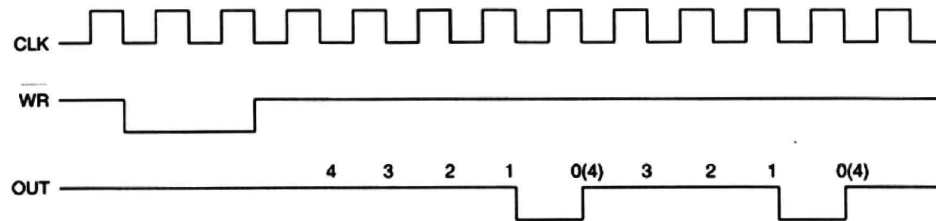

Fig. 4.15 Mode 2
- The signal waveforms are shown in Figure 4.15.